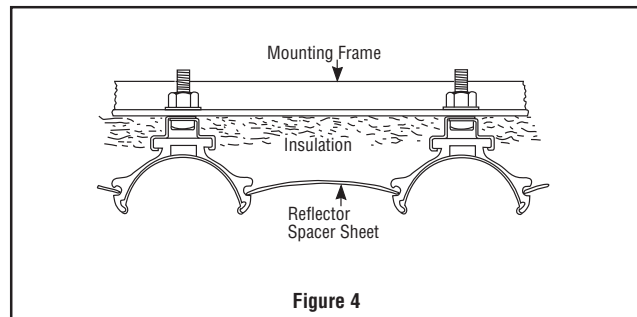

Figure 4
4. **Reflector Spacer Sheets** — Where heaters are not mounted side by side (see Fig. 4), reflector spacer sheets can be used between heaters. These reflector spacer sheets and companion reflectors consisting of an extruded aluminum housing with reflector sheet and mounting clamps are available. Check factory or local Chromalox Sales and Application Engineers.
5. **Insulation** — Where unusually high work temperatures are encountered, it may be desirable to insulate with high temperature insulation. **Note:** An air space should be left between backs of heaters and insulation. (see Figure 4)